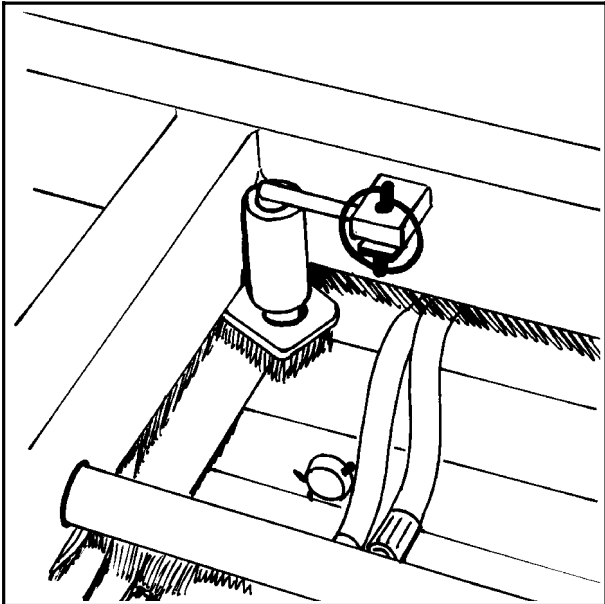

Fig. 2-4
1. The machine is equipped with a transport locking bolt. This always has to be set in locking position before transporting. When the turntable is in right position, lower the bolt and secure it with the linch pin. (Fig. 2-4).